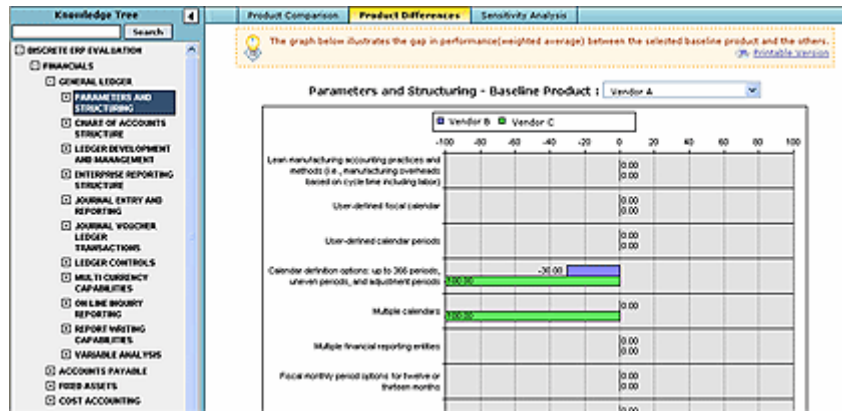

Figure 6. Product Difference graph.
The **Product Differences graph** (figure 6) illustrates the gap in performance (WA) between the selected baseline product and others. The selected vendor is displayed and is the Base option.